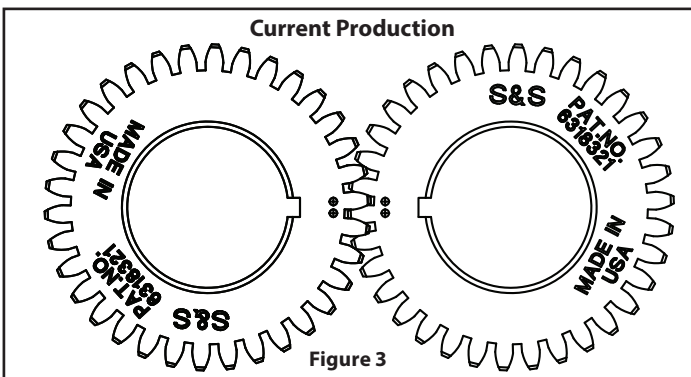
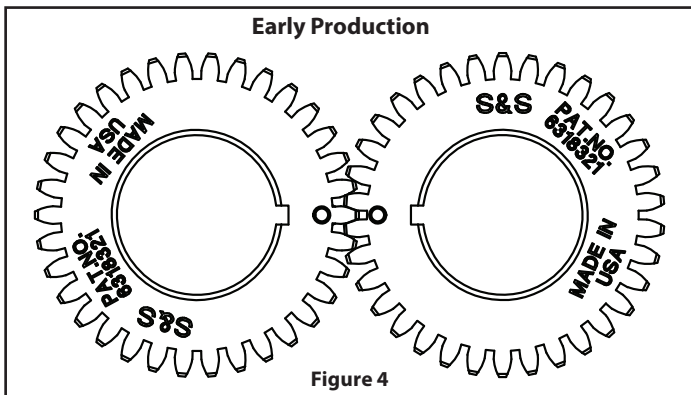

Figure 3
Figure 4
- Apply assembly lube to bearing surface of rear (longer) camshaft and inside the rear bearing. Support bearing by inner race. Align front and rear camshaft gear timing marks as shown in **Figure 3** or **Figure 4**. Press camshaft all the way into bearing.
*NOTE: Current production S&S Gear drive camshafts have timing marks shown in **Figure 3**. Older S&S gear drive camshafts, have the timing marks shown in **Figure 4** Cams with early and late gear styles must not be used together.*